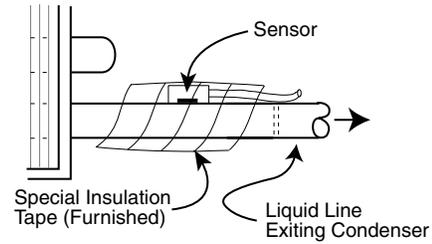

Figure 1
- Install Sensor(s) to the top of liquid line where the line exits the condenser coil (refer to Figure 1). If two compressors (circuits) are used, one Sensor is required for each refrigerant circuit (DS model only).